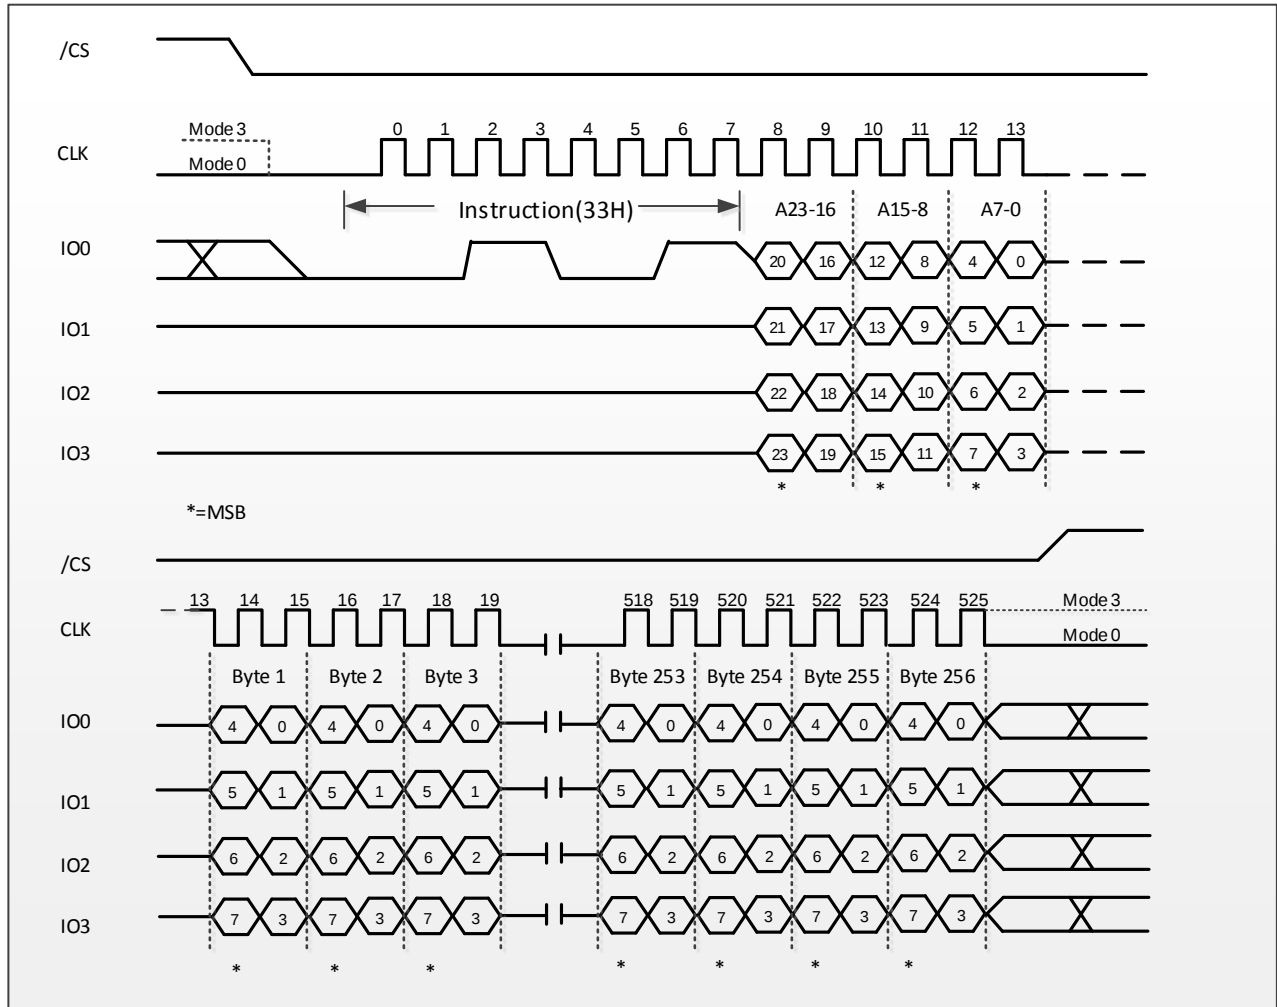

Figure 31. Quad Page Program Instruction (SPI Mode only)
The Quad Page Program (33h) instruction is similar to the Quad Input Page Program (32h) instruction except that address and data bits are both input and output through four pins IO₀, IO₁, IO₂ and IO₃. The Quad Page Program can improve performance for PROM Programmer and applications that have slow clock speeds <5MHz. Systems with faster clock speed will not realize much benefit for the Quad Page Program instruction since the inherent page program time is much greater than the time it takes to clock-in the data. To use Quad Page Program the Quad Enable (QE) bit in Status Register-2 must be set to 1. The Quad Page Program instruction sequence is shown in Figure 31.